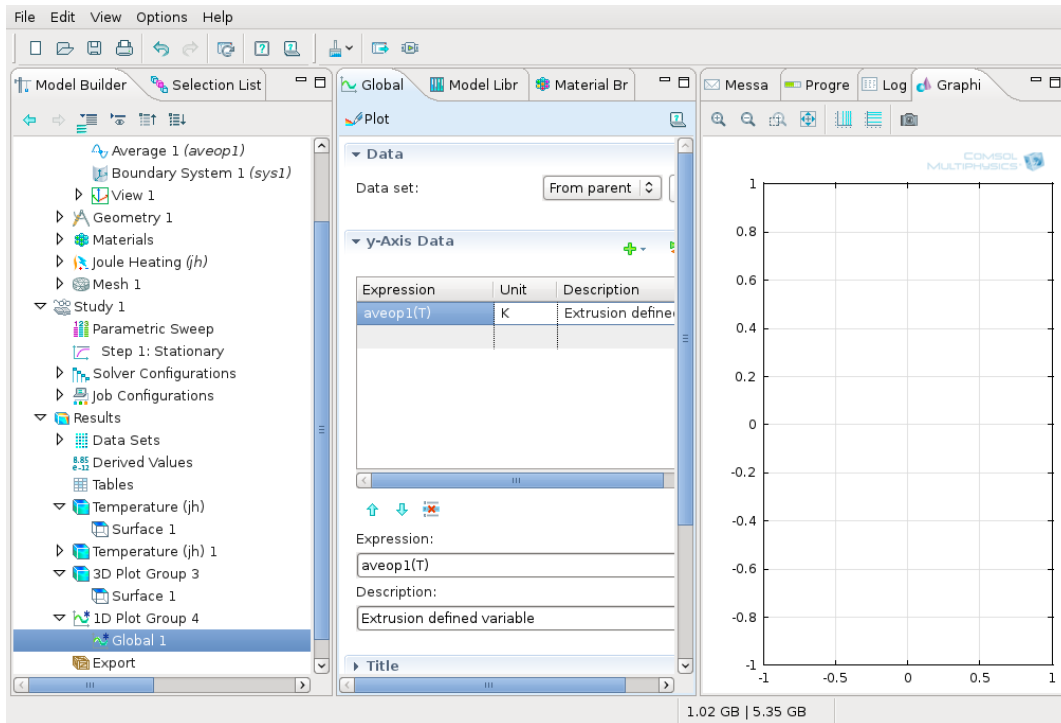

Figure 36: Using the average operator.
- 4 Add **aveop1(T)** into the first row of the **Expression** column in the **y-Axis Data** table (Fig. 36). The syntax remains similar while calculating the average values of the other quantities.